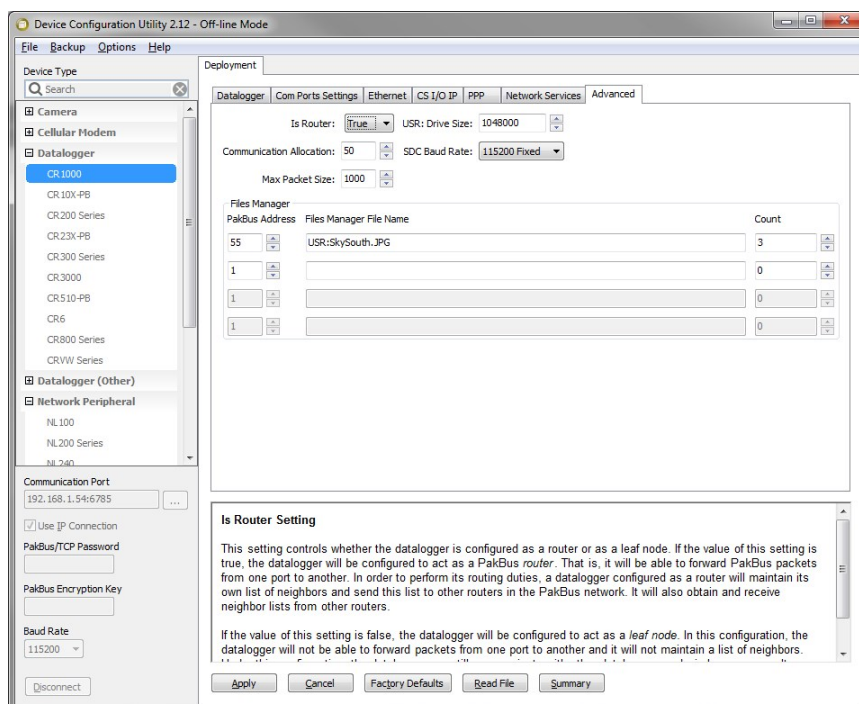

Figure 20-1. Data logger files manager
- DDD – destination drive on the data logger. Use USR for the user drive (see Figure 20-1 (p. 123)). Use CRD for the memory card.
- NAME – a name string used to name the files. In Figure 20-1 (p. 123), this value is *SkySouth*. The file name automatically produces an incrementing number. In this example, the first file will be named *SkySouth1.jpg*. Type zero for this parameter to disable the automatic numbering and produce a fixed file name of 0. In this example, the **Files Manager File Name** would be USR:0.JPG.
- EXT – the file extension the incoming file must match. In the case of the camera, this must always be either jpg or avi. In Figure 20-1 (p. 123), this value is *JPG*.